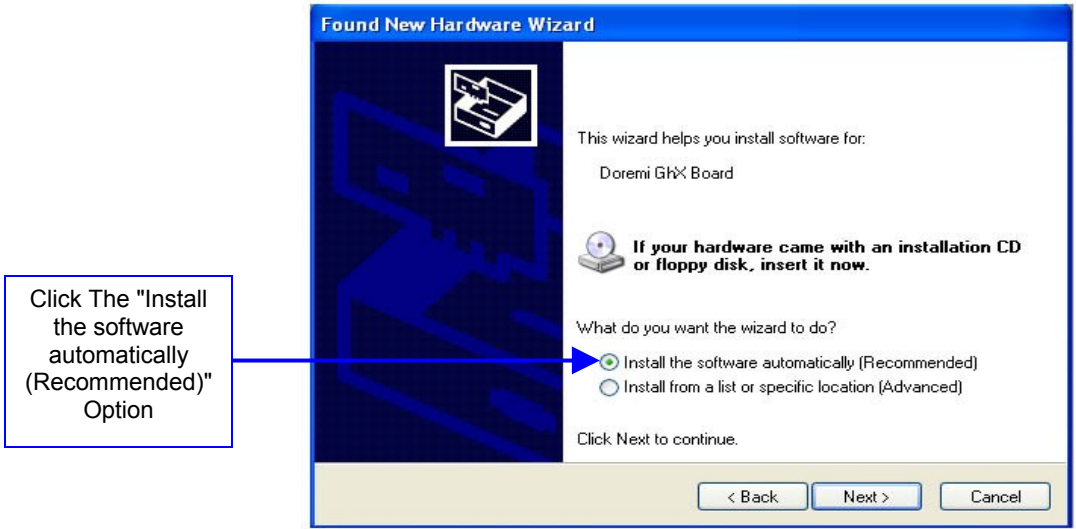

Figure 7: "Found New Hardware Wizard" Window – Step 2
- When asked for the type of software installation, choose the option "Install the software automatically (Recommended)" (Figure 7).